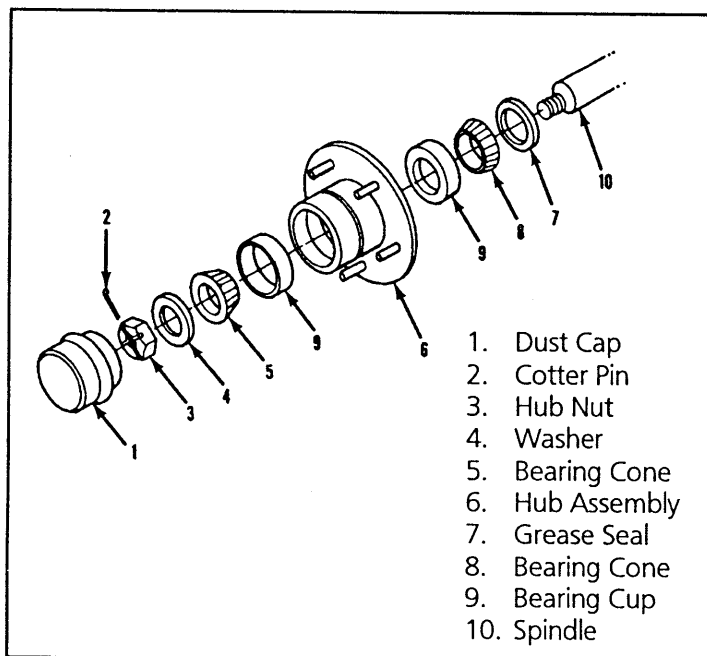

Figure 4-11: Wheel Bearings
4.10 Wheel Bearings (Figure 4-11)